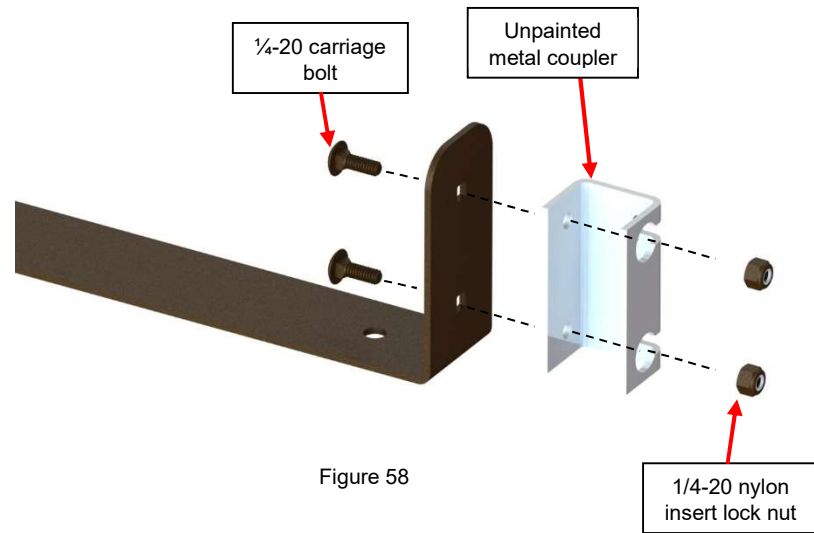

Figure 58
13) Install one unpainted metal coupler on each end of the front frame cut-out. (Figure 58)
14) Align one unpainted metal coupler with the holes on each end of the front frame cut-out. Use the provided 1/4"-20 x 3/4" carriage bolts, 1/4"-20 nylon-insert lock nuts and fasten the hardware with the 7/16" (11 mm) socket wrench and spanner. There is one metal coupler per side. (Figure 58)